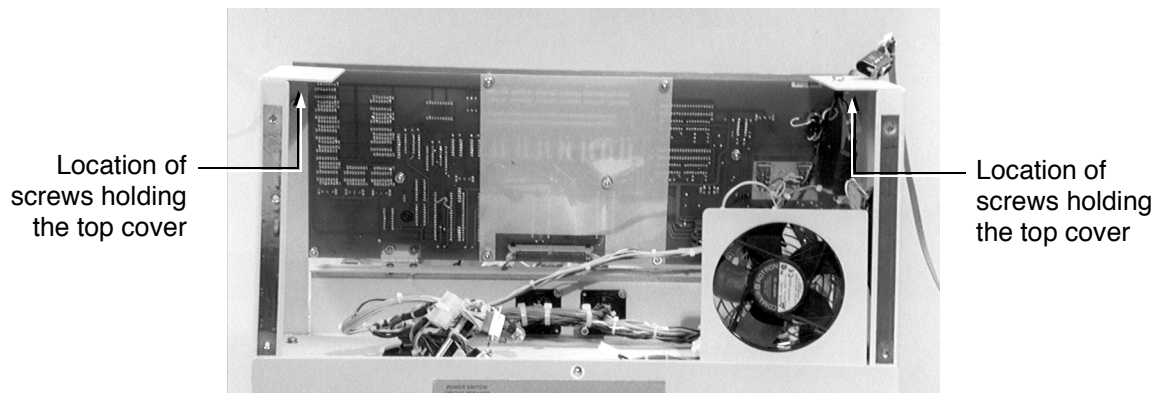

Figure B-2 The Top Panel at the Rear of the Turret
3. Remove the 3-8 nuts located under the front corners of the frame of the chassis (Figure B-2).